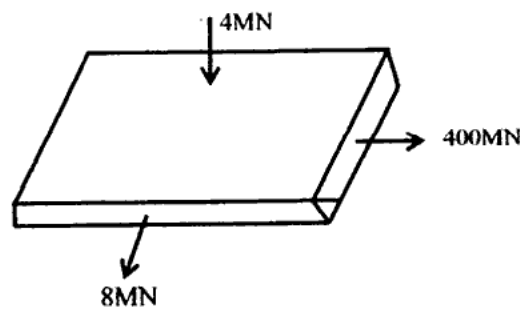

Fig 2
- Q. 1 A metallic bar  $250\text{mm} \times 100\text{mm} \times 50\text{mm}$  is loaded as figure 2. Find the change volume. Take  $E = 2 \times 10^5 \text{ N/mm}^2$  & Poisson's Ratio = 0.25. rtuonline.com